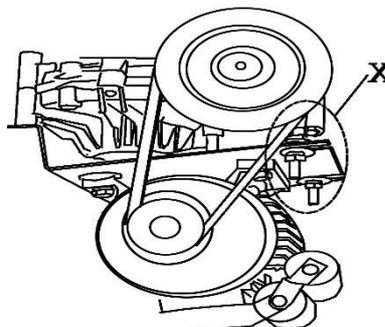

Fig16
5. Check the tension of belt as following if the turntable is not powerful enough to run. Unscrew the bolt from machine side, then dismount the board. Adjust the special bolt X to tighten the belt. (Fig 16)